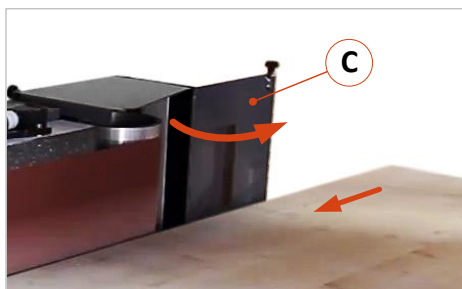

Figure 36: Open right cover (C)
- ⇒ Figure 36: Open the protective cover (C) and fasten it in the maximum open position.
- Hold the workpiece against the sanding belt and move it along the sanding belt from right to left until it is sanded cleanly (see direction of arrow in ⇒ Figure 36).
**Increased danger of drawing in on the right-hand drum when the protective cover (C) is open !**
**After completion of the operation, refit the two protective covers (B) and (C).**